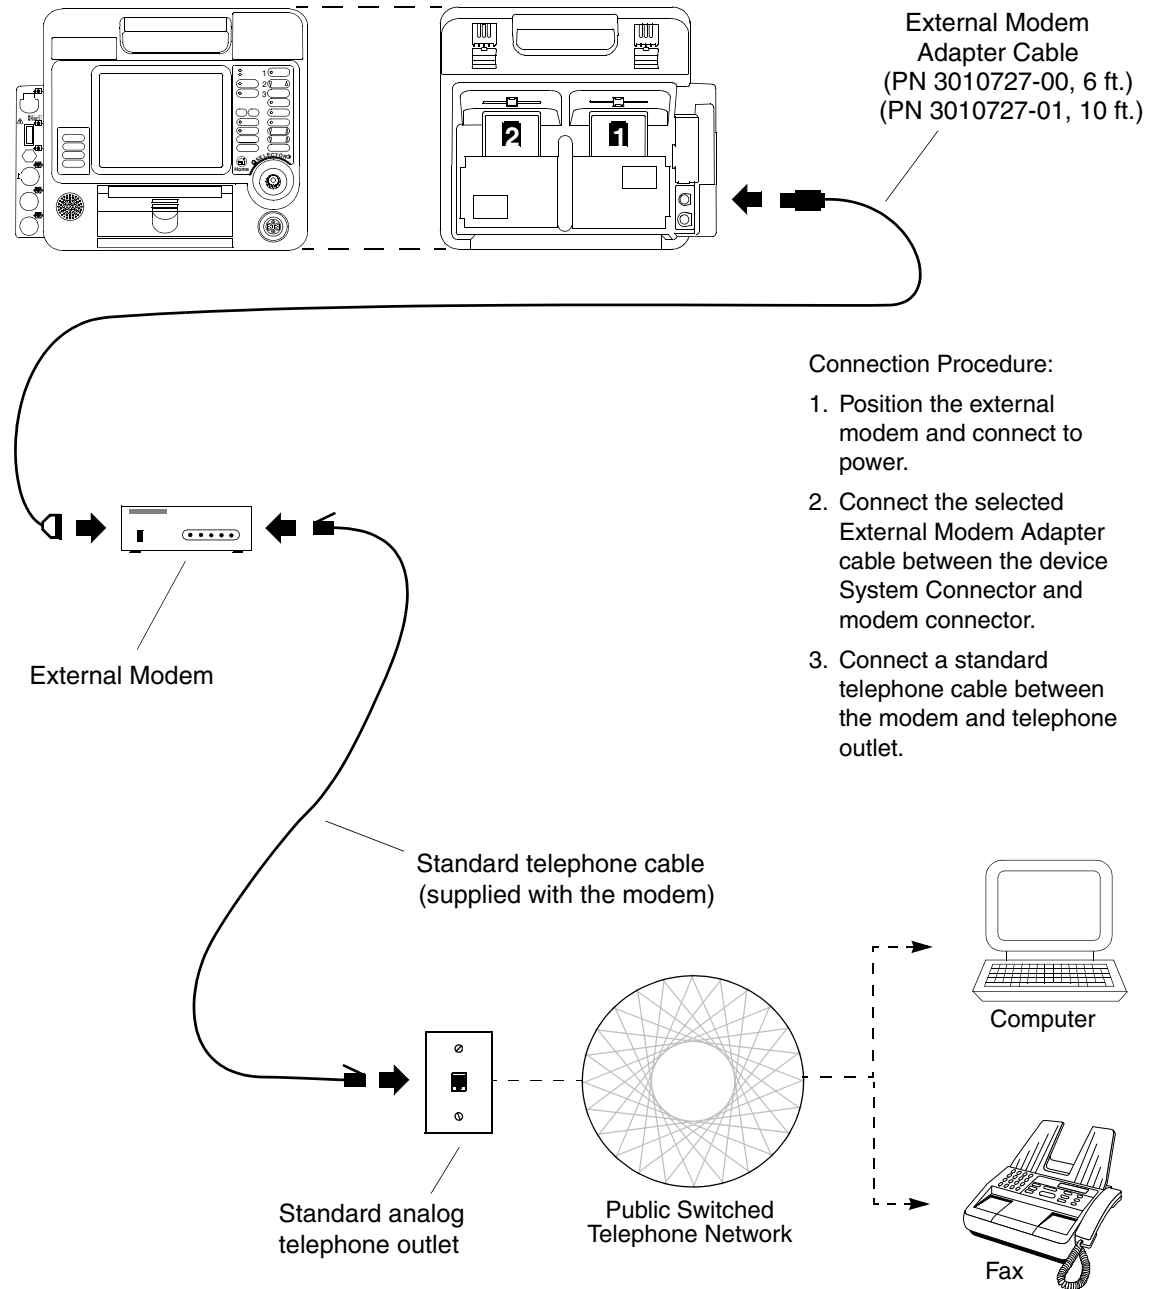

Figure 6-5 Equipment Connections External Modem – Analog Landline
- **External** Transmit reports by analog landline telephone using an external modem. Requires the following for interconnection (see Figure 6-5):
Figure 6-5 shows you the equipment connections for transmitting reports by analog landline telephone using an external modem.